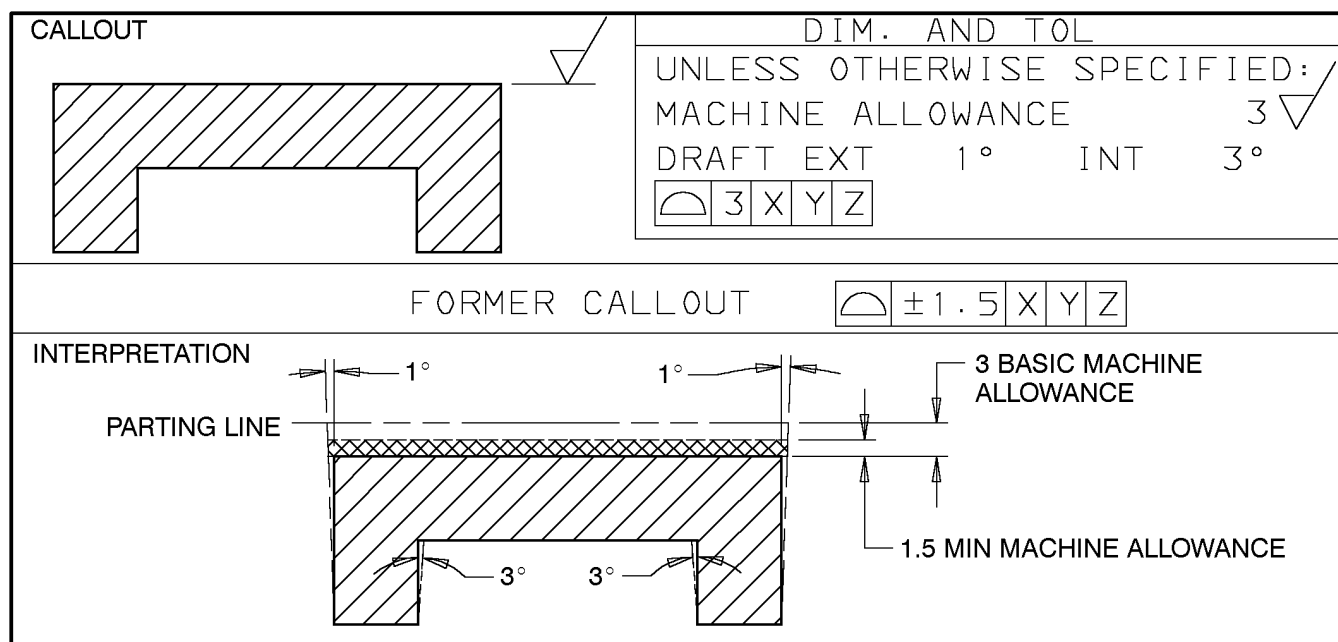

Figure 23 - Positive Draft - Not Shown Pictorially
**11.13** Figure 23 illustrates positive or plus draft. The callout shows a machined surface, indicated by the machining required symbol, and 3 mm basic machine allowance, 1 degree external and 3 degree internal draft, and 3 mm general profile tolerance in the **DIM AND TOL** block.
**11.15** 1 degree external and 3 degree internal draft is normally shown in the **DIM AND TOL** block for sand castings as shown in Figure 23. The internal draft shown in the **DIM AND TOL** block is interpreted to mean internal surface formed by the pattern and pockets in external surfaces (such as shown with 3 degree draft in Figure 23). Draft on internal surfaces formed by cores is intended to be 1 degree.